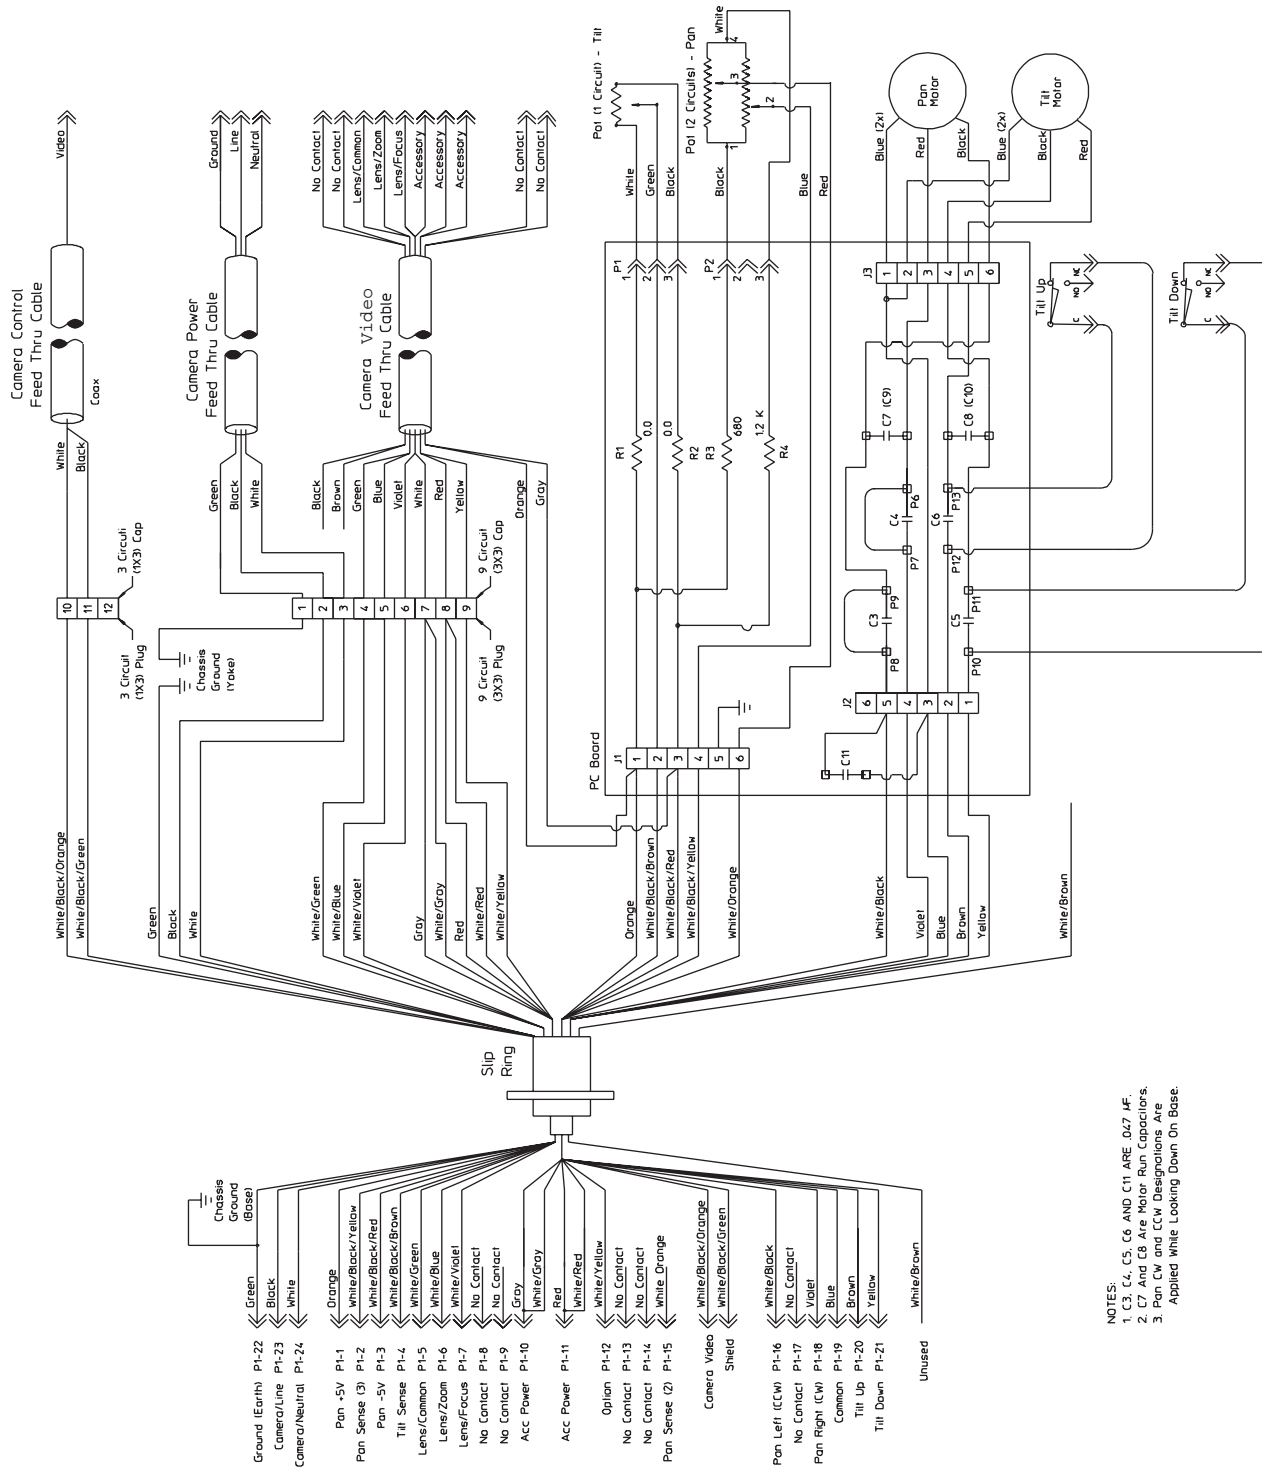

Figure 8: Wiring Diagram - 360° Models with Pre-Position
8. Pre-Position models only. Refer to **Figure 8** for the wiring schematic.